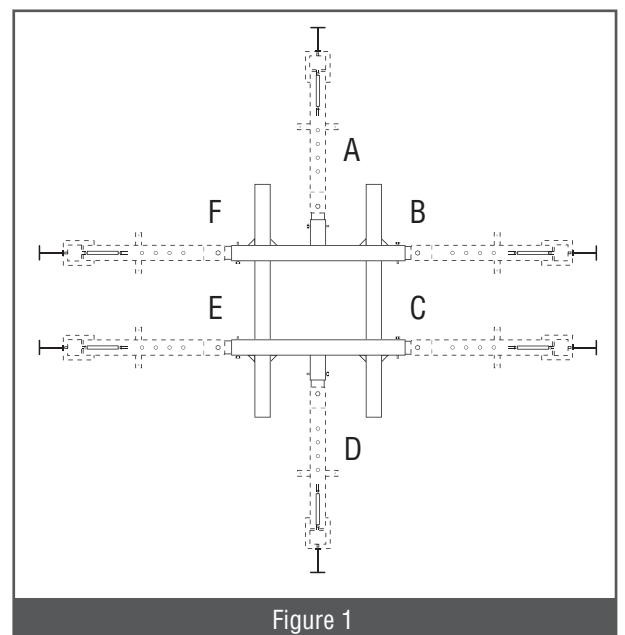

Figure 1
- There are following places of fixing pulling devices to the frame: A, B, C, D, E and F. Each of these places provides 10 various fixing positions. It allows making pulls in any direction around the car (figure 1).